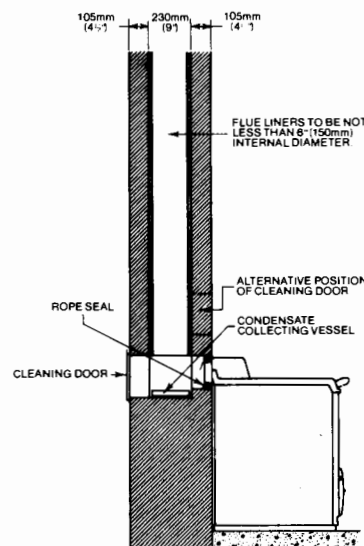

FIG. 6
3. The lower end of the chimney flue should be fitted with a condensate collecting vessel complete with sealed access door for removal of the vessel. Fig. 6.